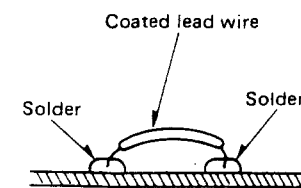

Fig. 24
1. If the chip jumper is removed, connect a coated lead wire to the part. (See Fig. 24). Chip jumper is marked with "J" on the printed circuit board.